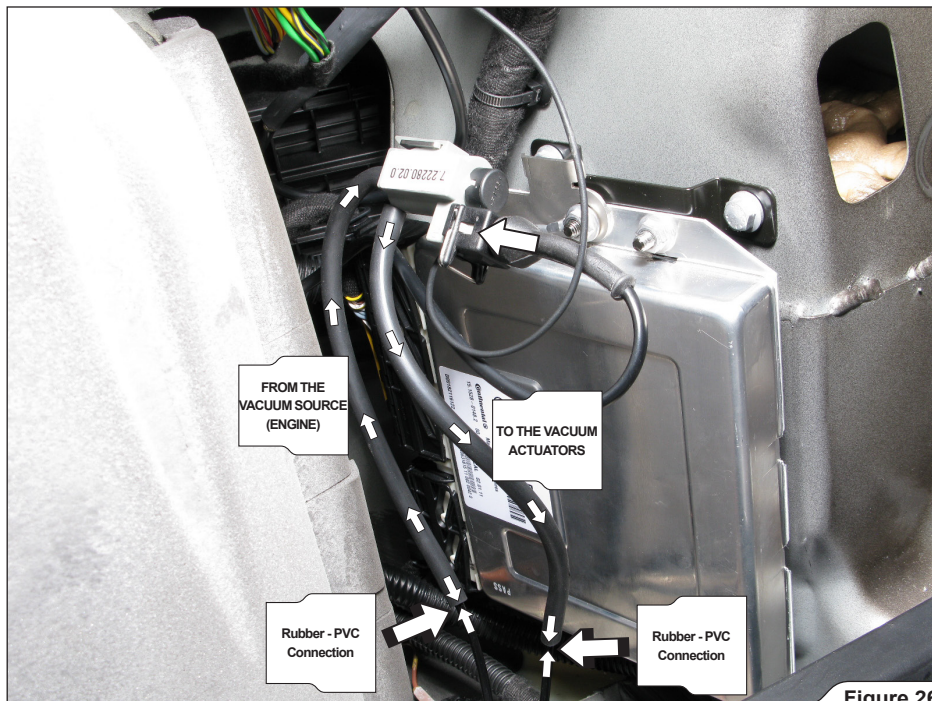

Figure 26
21. Correctly link the PVC vacuum hoses to the electromagnetic valve, using 20cm rubber vacuum hoses; connect the transmitter's connector to the electromagnetic valve (**Figure 26**).